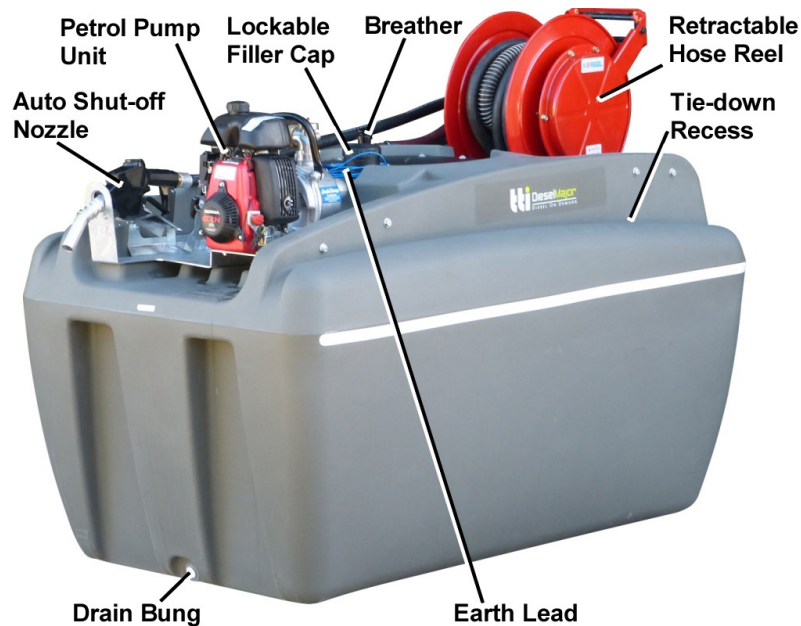
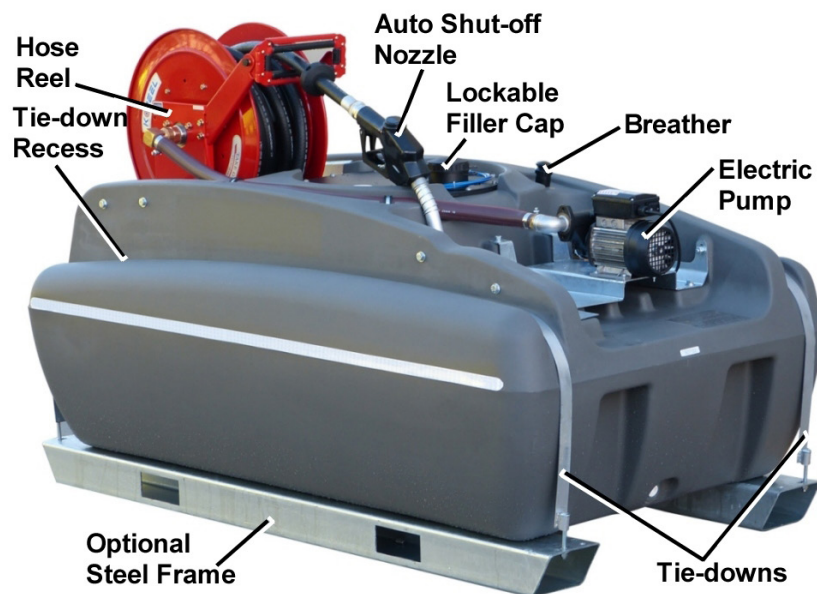

Figure 1 - Component Identification - 1,000 L DieselMajor
Figure 2 - Component Identification - 8,00L DieselMajor with Frame and Electric Pump
The TTI DieselMajor is designed to carry and distribute diesel fuel, using the various self-contained pump and fuel dispensing system available. The DieselMajor units have the following features, refer to Figure 1 and Figure 2, and are available in the following configurations:
7. If the DieselMajor is supplied with an optional steel frame, ensure the steel frame is securely mounted to the vehicle. Where the unit is not supplied with the optional steel frame, mount securely using tie-down straps located into the tie-down recesses on both sides of the tank, refer to Figure 1 and Figure 2. The tie-down straps must be rated to at least the total mass of the unit when filled with diesel.